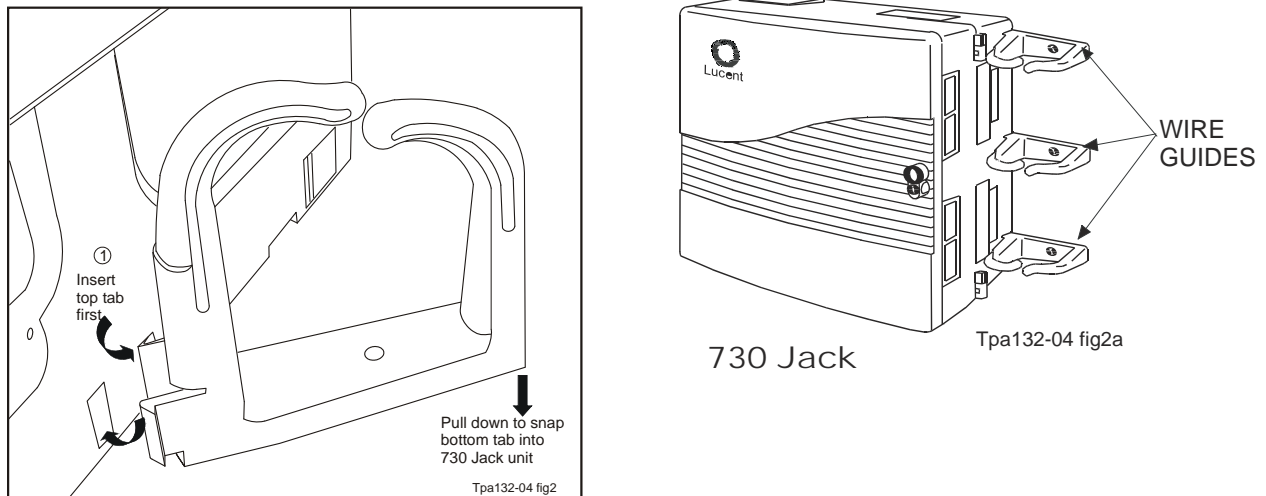

Figure 2. Wire Guides
1. Attach three wire guides (provided with unit) to right side of each jack to be mounted. Refer to Figure 2.